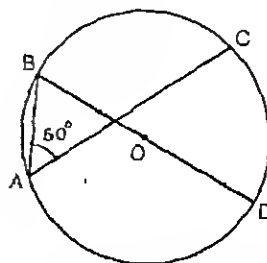

FIG. 34. DIAGRAM FOR EXAMPLE I.
1. O is the centre of a circle ABCD, and BOD is a straight line, Fig. 34.